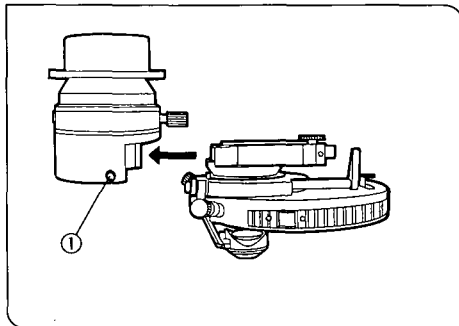

Fig. 34
### Transmitted Light Universal Condenser (U-UCDB) (Figs. 34, 35)
1. Using the Allen screwdriver, loosen the two set screws ① on the UCD adapter (IX-ADUCD). (Fig. 34)
3. Tighten the two set screws ① with the Allen screwdriver. (Fig. 34)